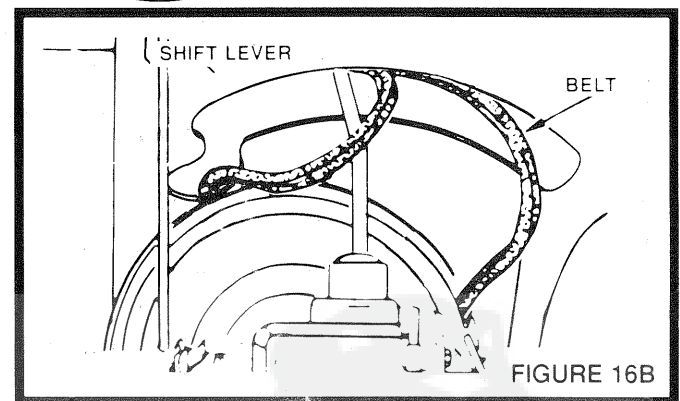

FIGURE 16B
- i. Form a loop in Belt and push it through opening containing Shift Lever in the Chassis. Pull loop up over Shift Lever and remove Belt (Fig. 16B).